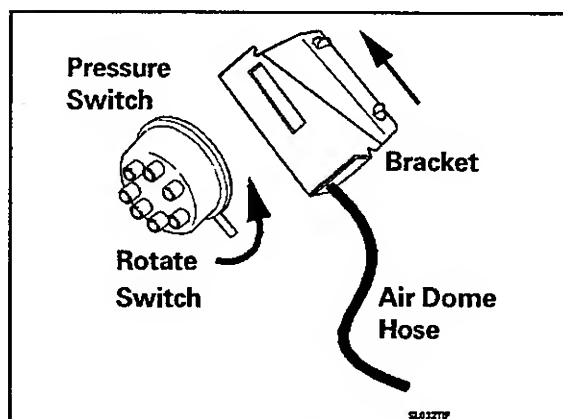

Figure 6-4
6. Rotate the pressure switch 90 degrees to disengage locking tabs on the back of the switch from the mounting bracket (*Figure 6-4*).
The water pressure switch is located along the rear upper cabinet flange of the washer and mounted to a galvanized bracket secured to the flange. The air dome hose is inserted into the lower end of the mounting bracket (*Figure 6-4*). The nipple of the pressure switch is inserted into the end of the air dome hose which is secured by the lower mounting bracket.
4. Slide the pressure switch up, away from the air dome hose (*Figure 6-4*).
- Slide the pressure switch up on the mounting bracket, away from the air dome hose. The mounting bracket for the pressure switch is secured to the rear cabinet flange of the washer cabinet (*Figure 6-4*).